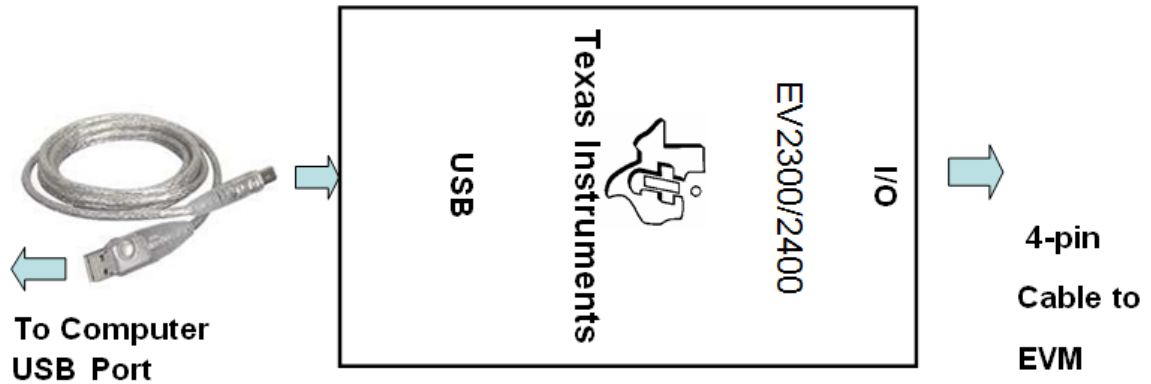

Figure 1. Connections of the EV2300/2400
6. Connect the EV2300/2400 USB interface board to the computer with a USB cable and from I2C port to J8 with the 4-pin cable. The connections are shown in Figure 1.